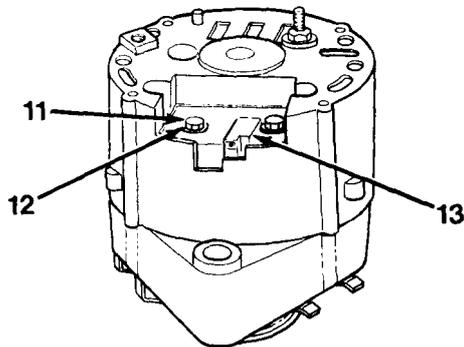

Figure 10-4
2. Remove two self-tapping screws (11), washer (12) and brush assembly (13, Figure 10-4).